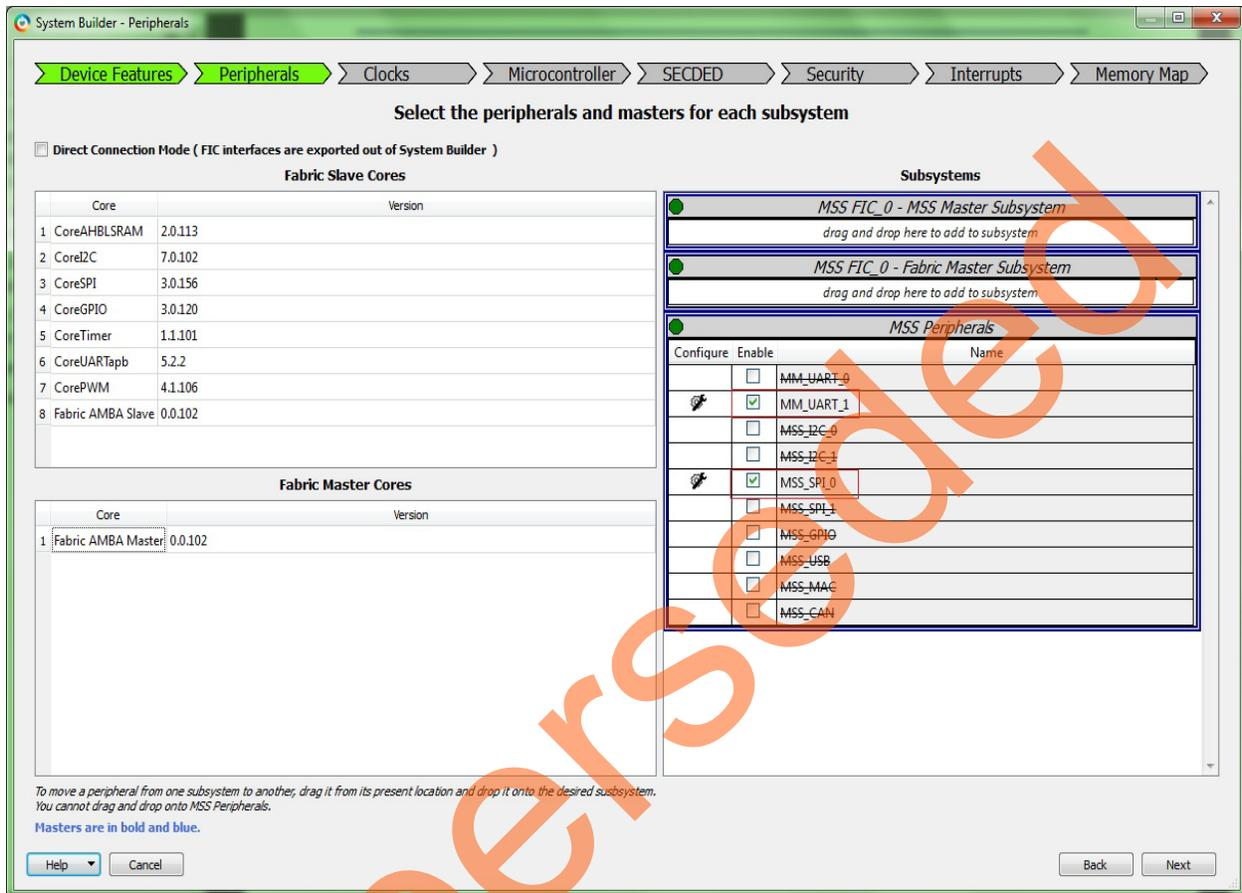

Figure 9 • System Builder – Peripherals Page
9. Click **Next**. This opens **System Builder - Peripherals** page as shown in Figure 9.
10. Under the MSS Peripherals section, clear all the check boxes except **MM_UART_1** and **MSS_SPI_0**, as shown in Figure 9.